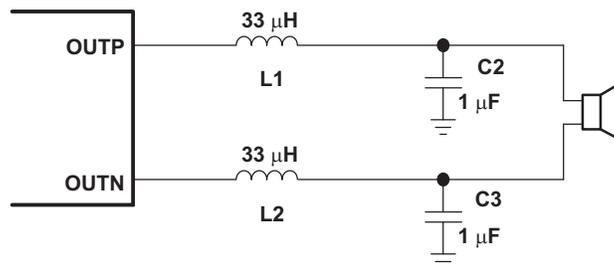
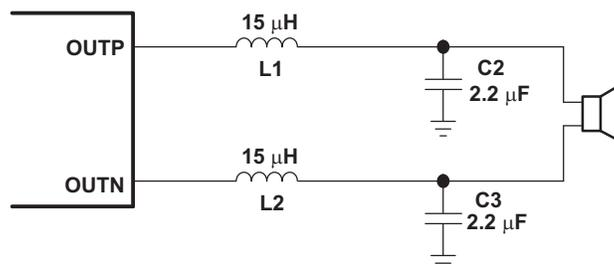

Figure 18. Typical LC Output Filter, Cutoff Frequency of 27 kHz, Speaker Impedance = 8 Ω
Figure 19. Typical LC Output Filter, Cutoff Frequency of 27 kHz, Speaker Impedance = 4 Ω
There may be a few circuit instances where it is necessary to add a complete LC reconstruction filter. These circumstances might occur if there are circuits near which are sensitive to noise. Therefore, a classic second order Butterworth filter similar to those shown in Figure 18 through Figure 20 can be used.
- **Output filter:** The ferrite EMI filter (Figure 20) must be placed as close to the output pins as possible for the best EMI performance. The LC filter (Figure 18 and Figure 19) must be placed close to the outputs. The capacitors used in both the ferrite and LC filters must be grounded to power ground.